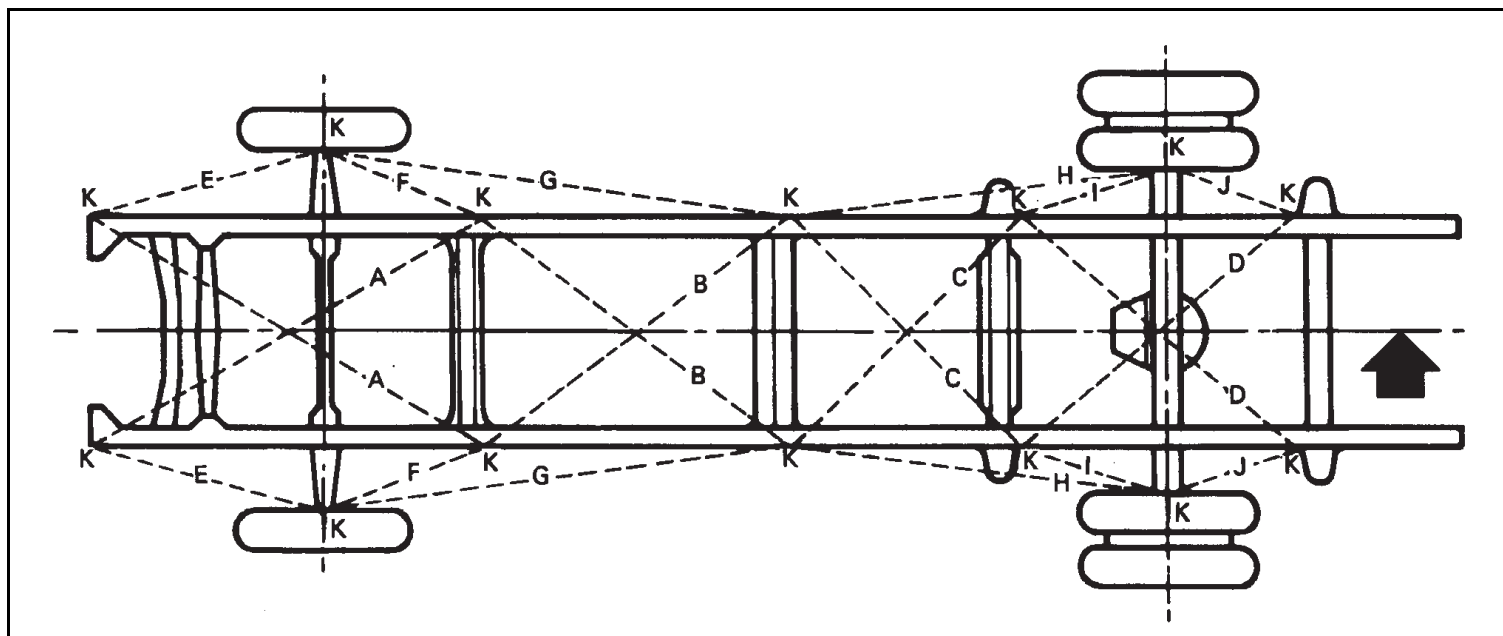

Figure 2.2 Centerline of Chassis
2. Tack or tape pieces of paper to the floor directly under each point of measurement on the chassis as indicated by the letter “K” in Figure 2.2.